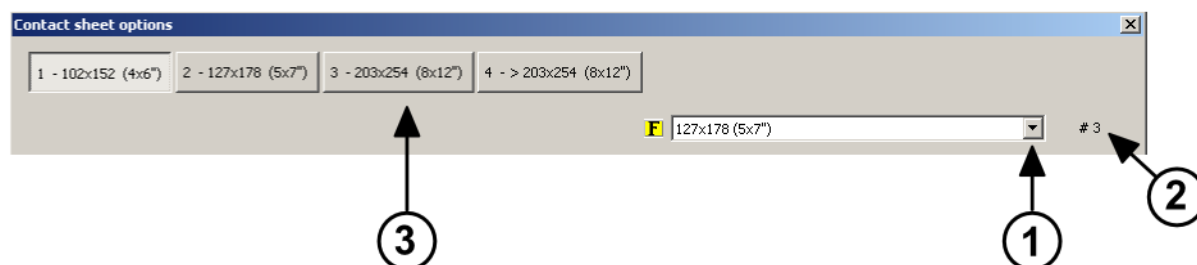

Fig.83 - Matching a format to the index
- 1) Select the desired format in the pull-down menu placed in upper right corner of the window (see fig. 83, nr.1).
- 3) Once generated the preview, at side of the format a number appears. In our example (fig. 83, nr. 2) it is **#3**.
- 4) This number indicates which button to select in the upper row (fig. 83, nr. 3). In our example, the button to select is **3 - 203x254 (8x12")**.